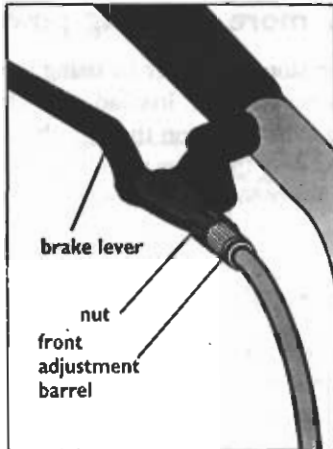

Figure 1
1. To adjust the brake, loosen the nut near the front adjustment barrel (Figure 1) by turning it counterclockwise with pliers.